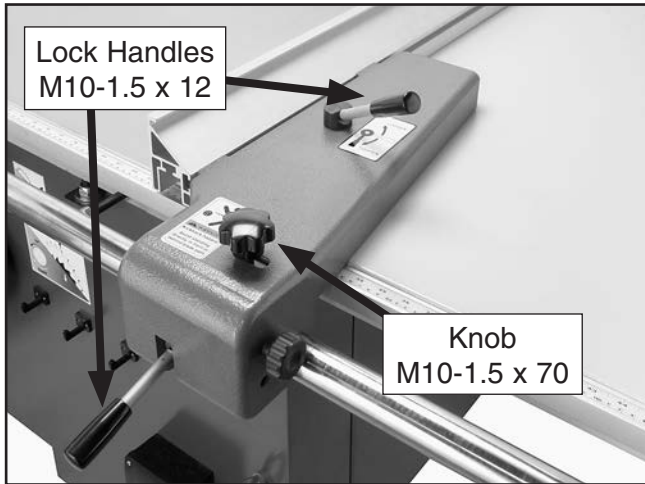

Figure 39. Rip fence handles.
23. Slide the rip fence body onto the round rail. Thread the lock handles M10-1.5 x 12 and knob M10-1.5 x 70 into the rip fence body, where shown in **Figure 39**.